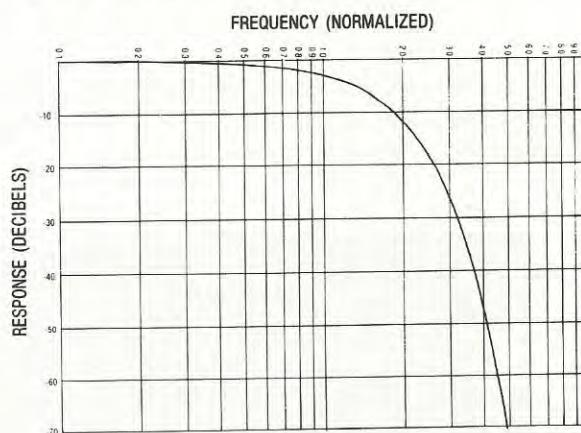

FIGURE 8
**BESSEL FILTER UNSATISFACTORY:** One filter that does not overshoot is the Bessel type. The Bessel filter has maximally flat time delay for a minimum phase filter. However, its frequency response is inadequate. It has a very gradual rate of cutoff shown in Fig. 8.